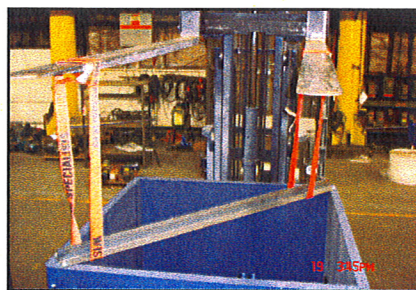

Figure 10
*Remove the two angles prior to this (Figure 10).*